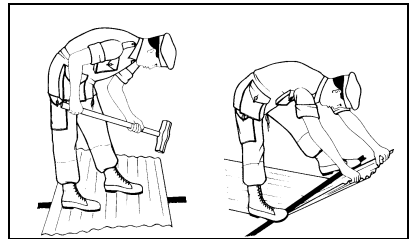

Fig 9-3-5 Bending Corrugated Iron
7. **Bending CGI.** CGI can be bent across the corrugations as follows (Fig 9-3-5):